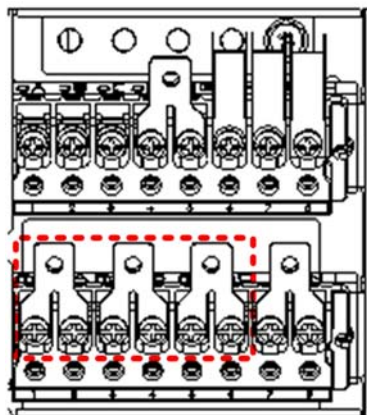

Figure 8-10 3-in 1-out, common input configuration (1)
- a) Remove the three copper shorting bars from the rectifier input terminals mA, mB and mC, see Figure 8-10.